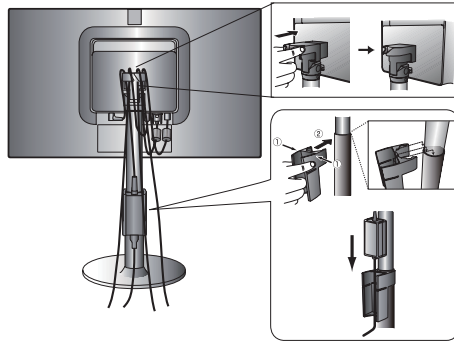
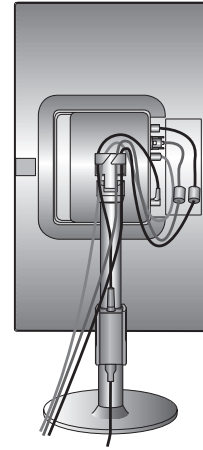

Figure B.2
Figure B.3
5. Place AC adapter holder and cable holder onto the stand (**Figure B.2**).
6. Position the Video Signal Cable and AC adapter between the holes on the cable holder, as indicated in **Figure B.2/Figure B.3**. Position the AC adapter between the holes on the AC adapter holder, as indicated in **Figure B.2**.